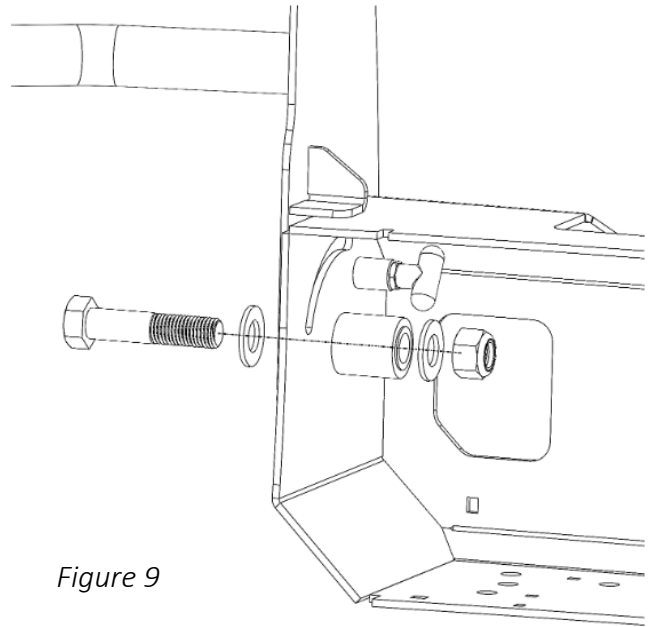

Figure 9
11. With assistance, place the tube assembly on the winch tray and by lining up the pivot cut to the outer hole and installing the 1" yellow zinc bolt with washers and lock nut to fasten it in place. Use a 1 ½" wrench and socket to tighten the 1" bolt to 40lbs. Figure 9.